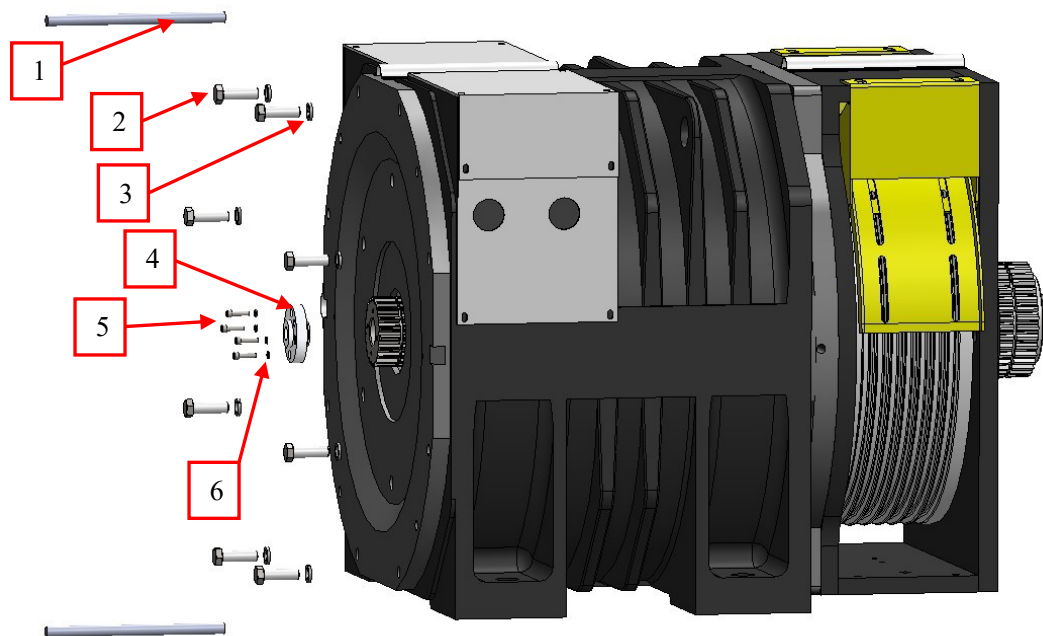

Figure 76 Install Encoder Shaft
6. Take off the threaded rod. Tighten the bolts M12x40 with lock washer 12 (8 pieces), install Encoder Shaft (align the mark) and tighten screws M5x16 (4 pieces) (coat with Loctite) with lock washers 5. See Figure 76 and Table 10.